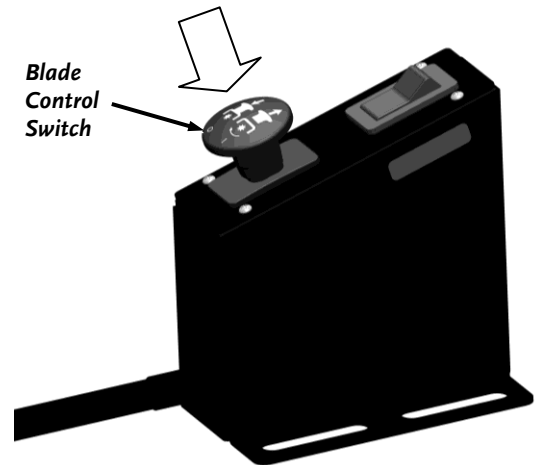

Figure 22
4. Make sure the Blade Control Switch is pushed down to the disengaged position (**Figure 22**).
1. Ensure the Blade Control Switch is pushed down (**Figure 22**).
1. Disengage the Blades by pushing the Blade Control Switch down (**Figure 22**).
1. Push down on the Blade Control Switch (Figure 22).